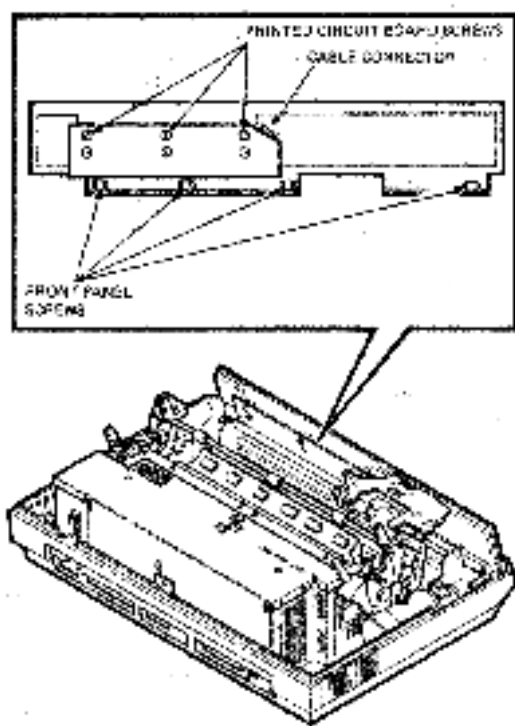

Figure 2-17 Front Panel PCB Removal
2. Disconnect the cable from front panel PCB (Figure 2-17).
3. Remove the four screws securing the front panel to bottom cover (Figure 2-17). Note ground strap location.
5. Remove the six screws securing the PCB to front panel and remove board (Figure 2-17).